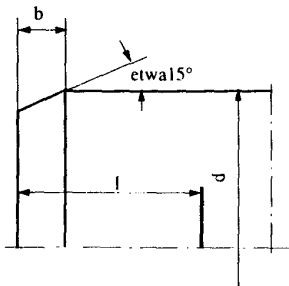

fig 1
- ➔ The end of the pipe is to be chamfered as shown in **fig 1** and set out in **Table 1**.